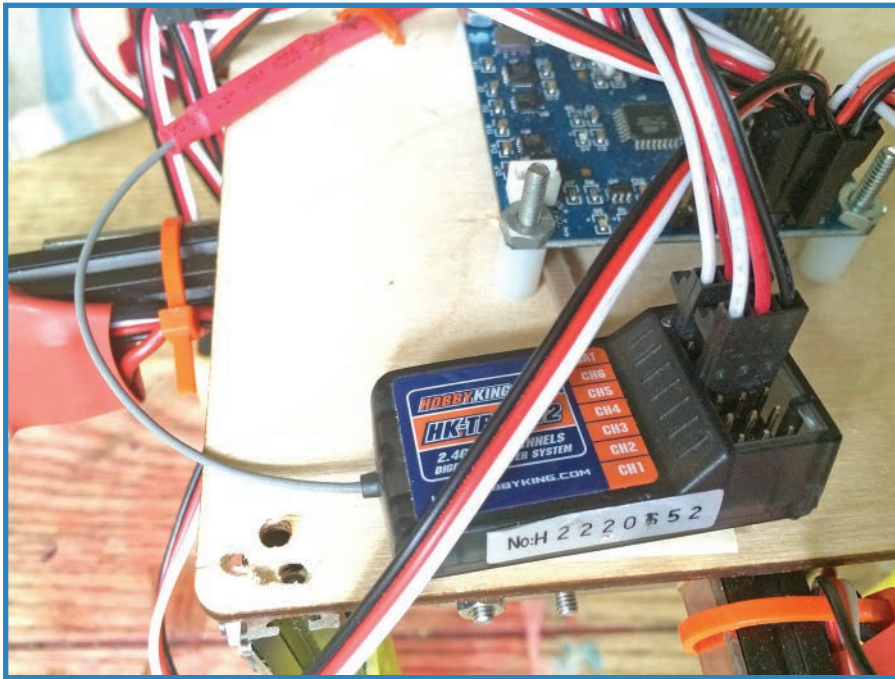

FIGURE 10.19 Wire the flight controller to the receiver.
- Connect the pins marked THR (throttle) to Channel 1 on the receiver. Make sure you plug in the wires correctly: Ground should be toward the edge of the receiver, and toward the edge of the MultiWii, as shown in Figure 10.19.